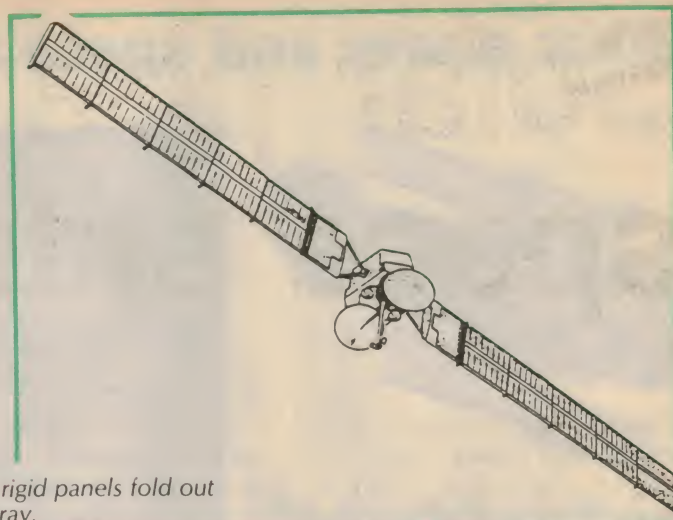

Fig. 3 (right): hinged rigid panels fold out to form this solar array.
- Hinged rigid panels which fold out to form the array, using springs or wires (Fig. 3).